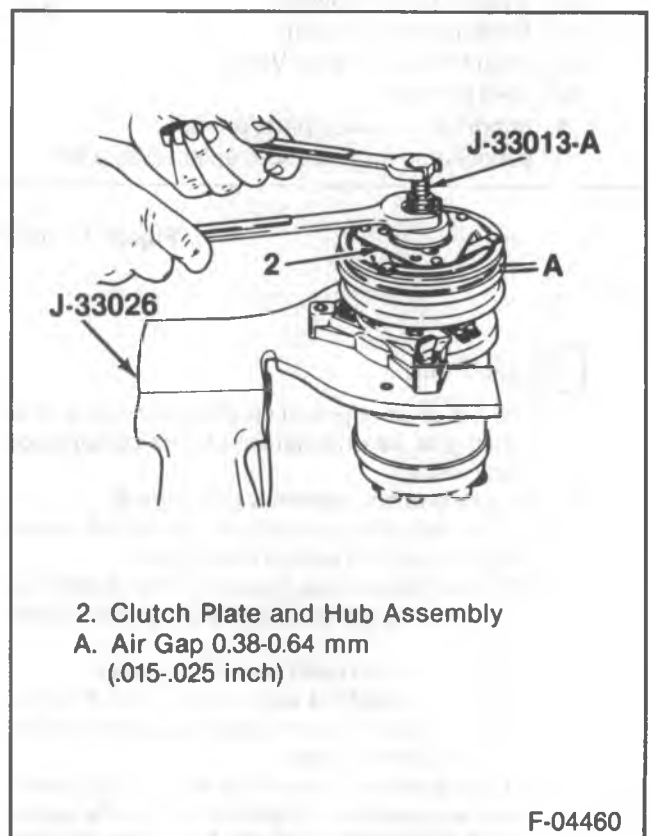

Figure 8 — Installing the Clutch Plate and Hub Assembly
- Do not drive or pound on the clutch hub or the shaft (20). Internal damage to the compressor may result.
2. Clutch plate and hub assembly (2) (figure 8).
- Make sure the contact surfaces of the clutch plate (2) and the pulley (5) are clean.
- Install J 33013-B with bearing (figure 8).
- Hold the center screw with a wrench and tighten the hex portion of J 33013-B body while pressing the hub onto the shaft. After tightening the body several turns, remove J 33013-B and check that the shaft key (21) is properly in place
- Measure the air gap between contact surfaces of the clutch plate and hub assembly (2) and the pulley (5). The gap should be 0.38-0.64 mm (0.015-0.025-inch) (figure 8).